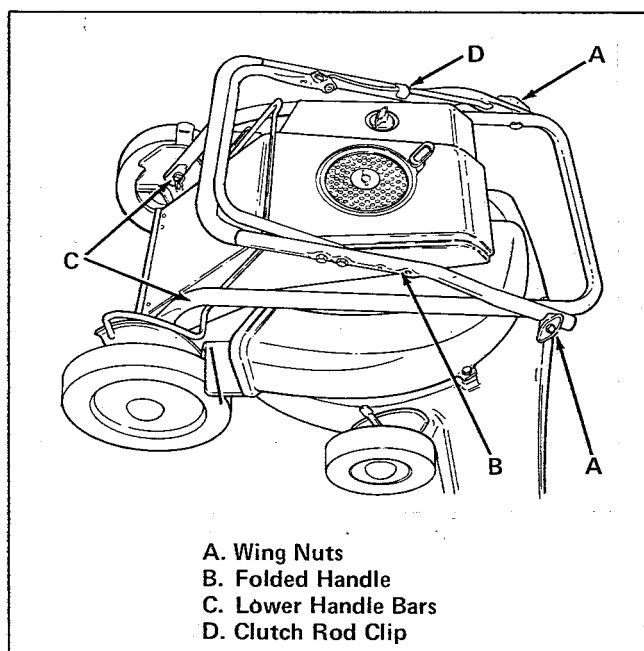

Figure 25. Folding Handle
2. Completely loosen the two wing nuts (item A, figure 25) on the lower part of the mower handle so the handle (item B) can be folded back and over the lower part of the handle bars.